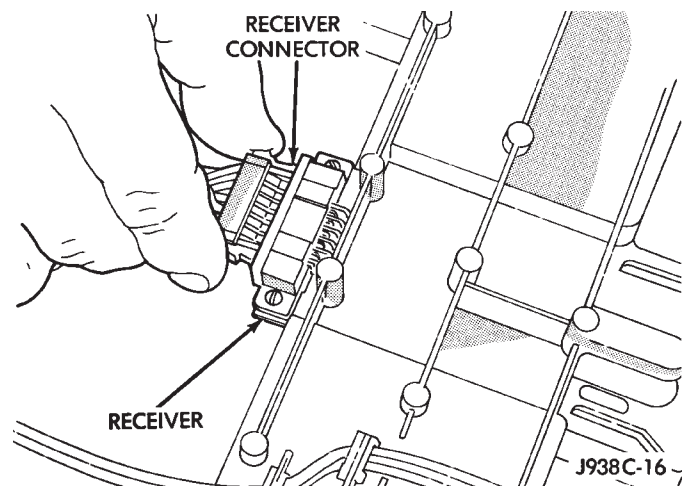

Fig. 4 Keyless Entry Harness Connector
- (2) Slide console forward until the console detaches from the rear mounting bracket.
- (3) Disconnect wire harnesses from keyless entry and compass (Fig. 4).
- (4) To install overhead console, reverse the removal procedures.